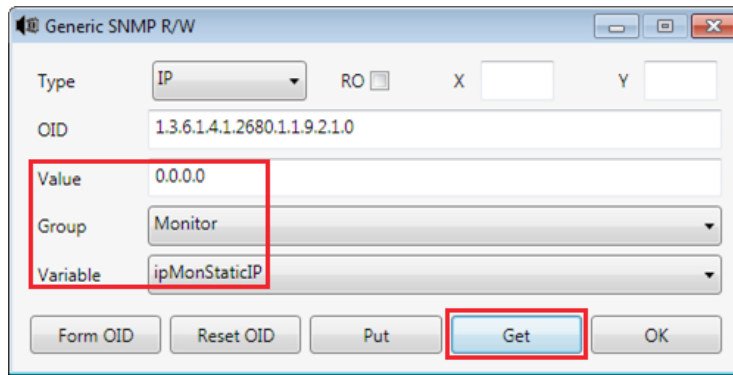

Figure 22: Generic SNMP - Get
6. In the *Generic SNMP R/W* window (**Figure 22**), verify the following settings: